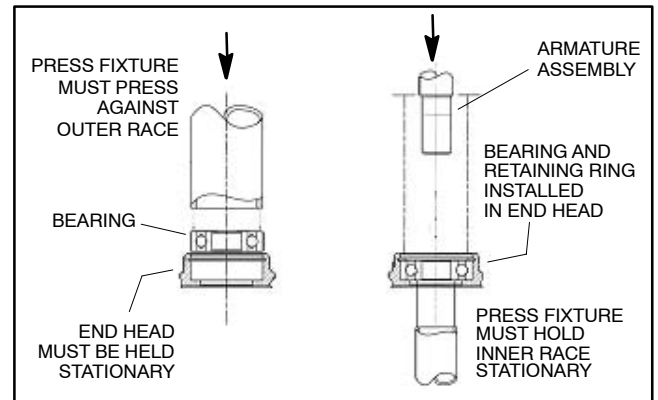

Figure 62
2. Press a new bearing into the commutator end head, pressing on the bearing outer race only (Fig. 62). Secure bearing with retaining ring.
3. Position the commutator end head to the frame and field assembly and secure with four (4) bolts. Torque bolts from 120 to 140 in-lb (13.6 to 15.8 N-m).
5. While supporting the inner-race of the bearing in commutator end head, carefully press the armature into the end head and bearing assembly (Fig. 62).